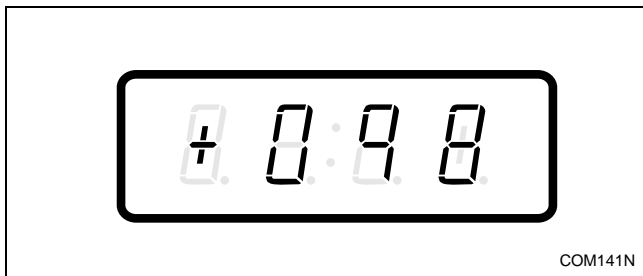

Figure 160
3. Press the DELICATES (+) or the COLD (-) keypad to scroll through the programmable options until “+098” appears in the VFD. Refer to *Figure 160*.